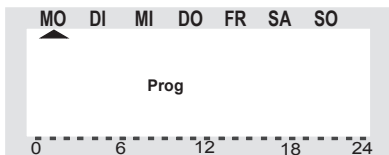

Figure 20
- '**Prog**' appears on the LCD and the '▲' arrow points to '**MO**' (**Monday**). See figure 20.